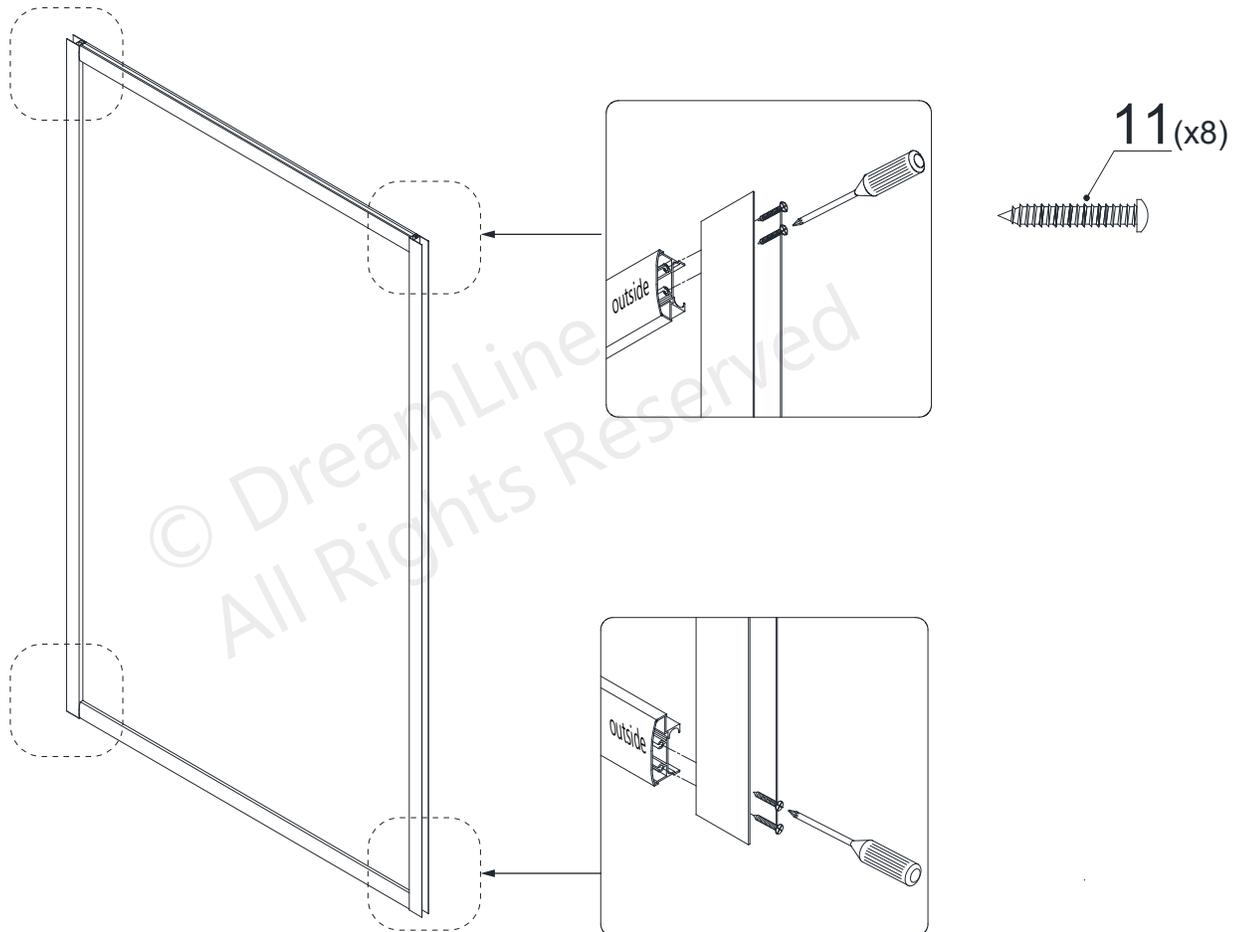

Fig 4
4. Secure the **Bottom Guide Rail (#03)** and **Top Guide Rail (#03)** to the **Glass Profiles (#01)** with the **ST4.2x25 Pan Head Screws (#11)**. **(Fig 4)**